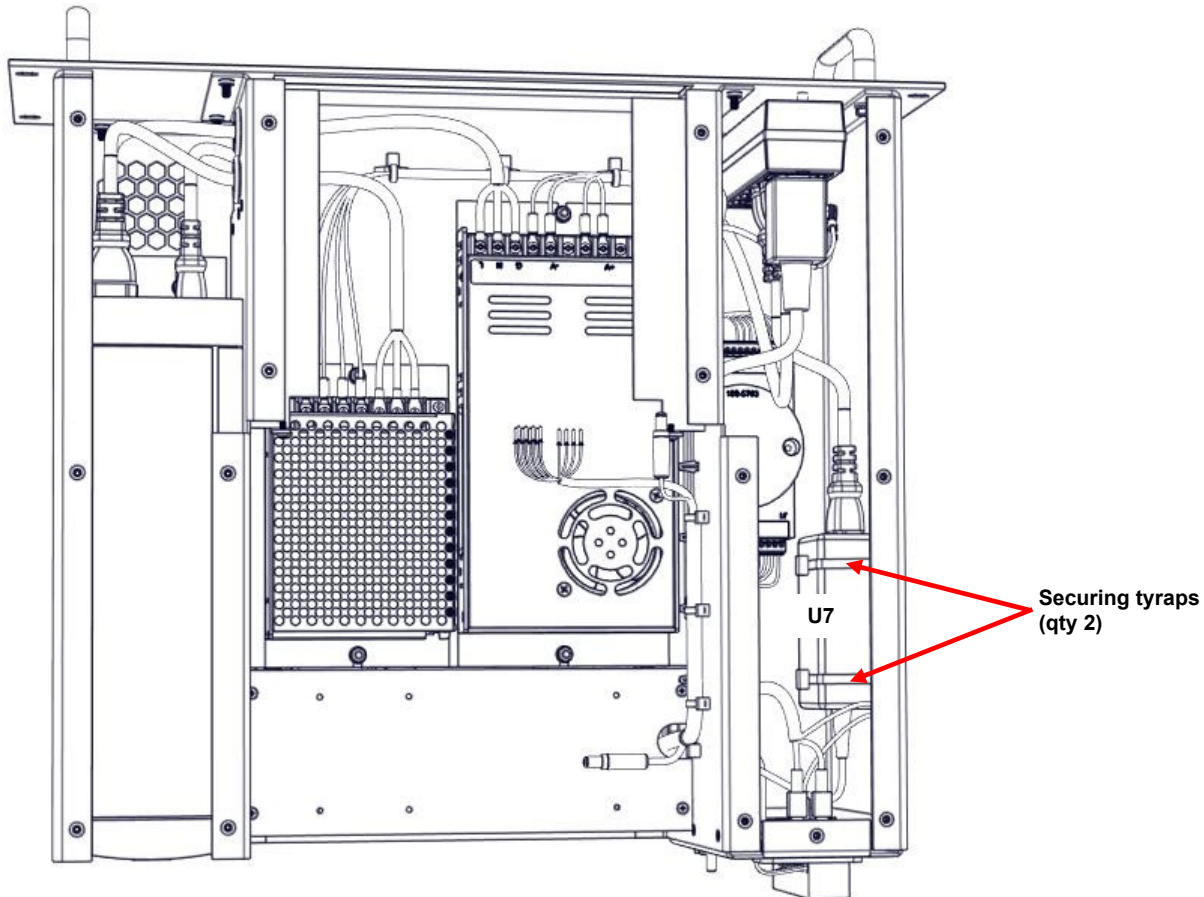

Figure 4-3: Power Supply securing tyrapts
Refer to Figure 4-3 to locate the defective power supply. To replace the UG119 Power Supply (U7), perform the following steps:
- (b) Remove and retain the four (4) sets of mounting hardware securing the Control Module in the rack (if required) and place on a suitable workbench.
- (c) Remove and retain the fifteen (15) M3 screws securing the top cover. Remove cover.
- (d) Cut the two (2) tyrapts securing the power supply to the chassis. See Figure 4-3.